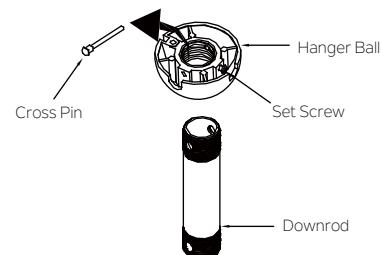

Fig. 7
**Step 3.** Remove the hanger ball from downrod assembly by loosening set screws , removing the cross pin, and twisting ball off the rod.( Fig. 7)